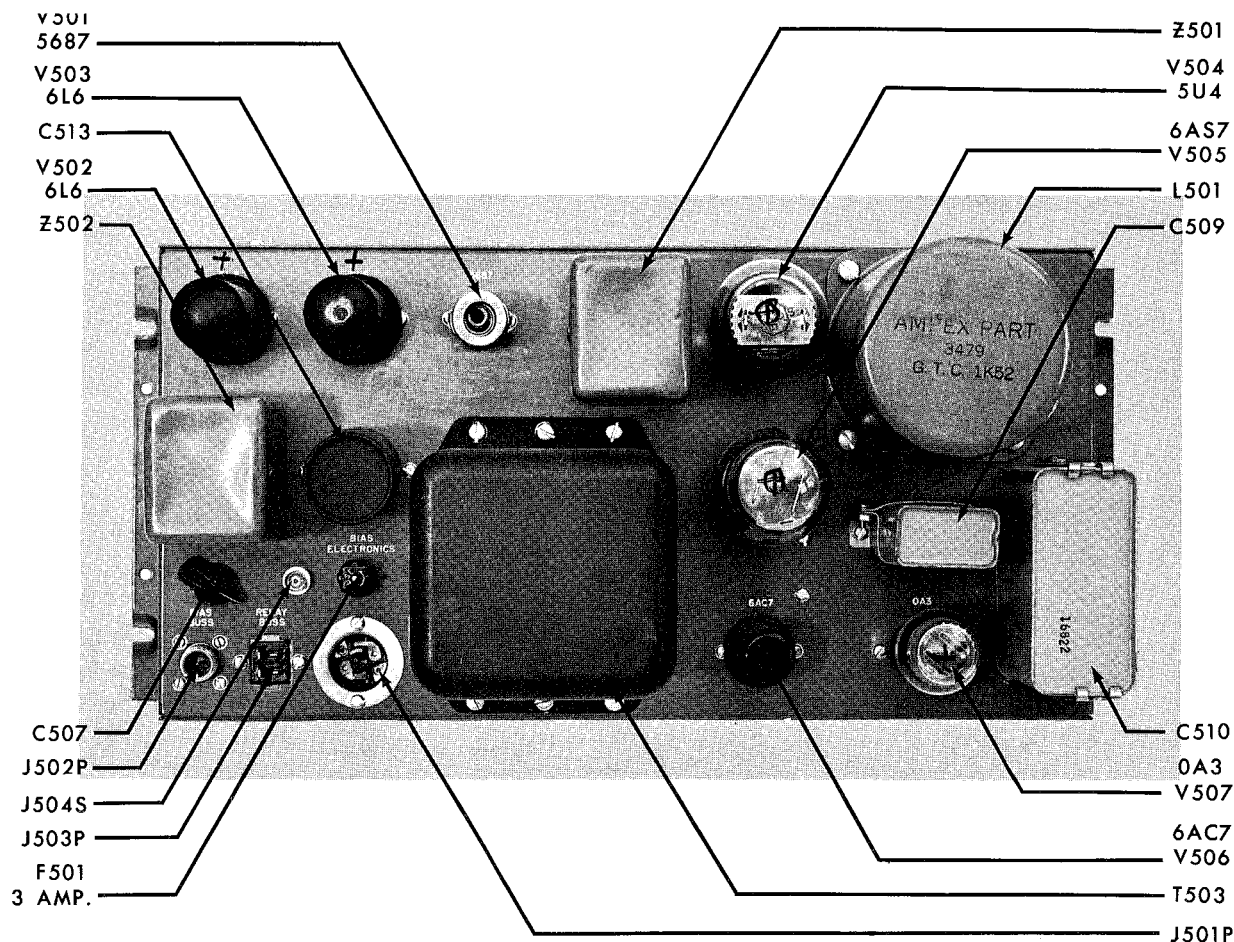

Figure 6-10 MASTER BIAS OSCILLATOR PARTS LOCATION (EXTERIOR VIEW)
- Step 1: Adjust the B+ voltage on the master bias oscillator to 300 volts d-c measured at the relay side of r-f choke L502. This voltage is adjusted by a slotted shaft control behind the front panel (see Figure 6-10).